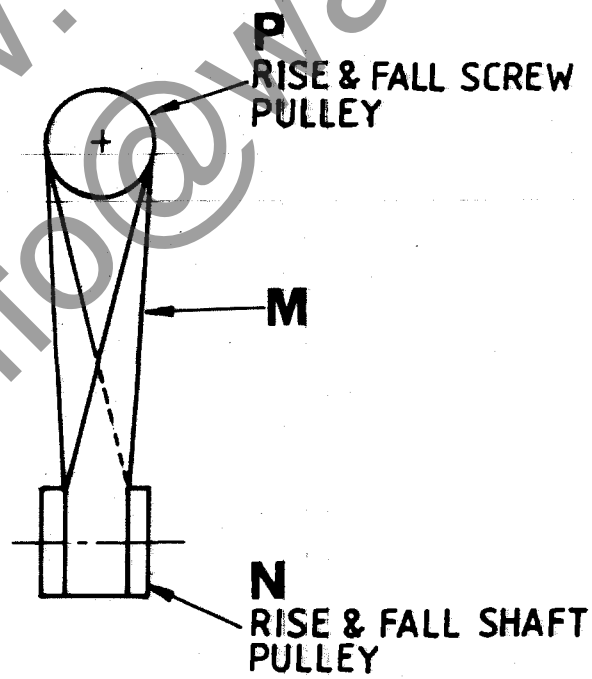

FIG. 21
- e) Position new belt over pulley 'P' on rise and fall screw FIG.21.